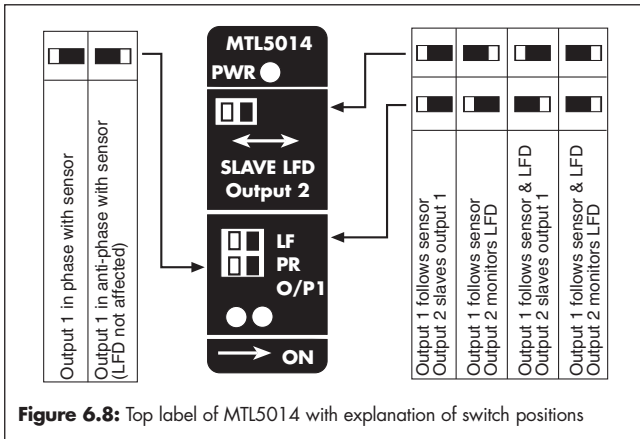
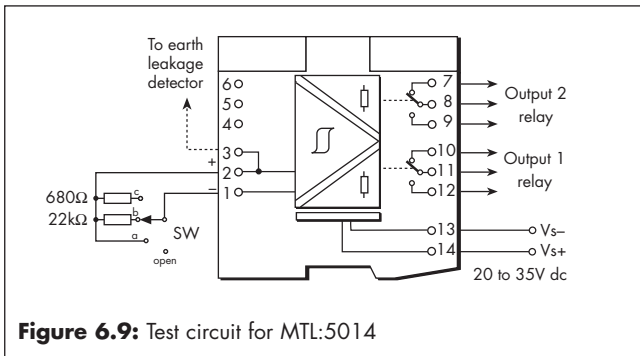

Figure 6.8: Top label of MTL5014 with explanation of switch positions
Figure 6.9: Test circuit for MTL5014
The MTL5014 enables two safe-area loads to be relay-controlled by a single hazardous-area switch or proximity detector. Phase reversal (see 3.1.3 and figure 6.8), line fault detection and slave/line fault monitoring configurations are possible.
Line-fault detection and the operational mode of output 2 (ie slave to output 1 or LFD) are selected by switches located on the top of the module (see figure 6.8).
Make the relevant safe- and hazardous-area connections shown in figure 6.9 for the tests listed in table 6.3. (Figure 6.8 shows the switch positions for configuring output 2 slave/LFD, output 1 line fault (LF) and phase reversal (PR)).